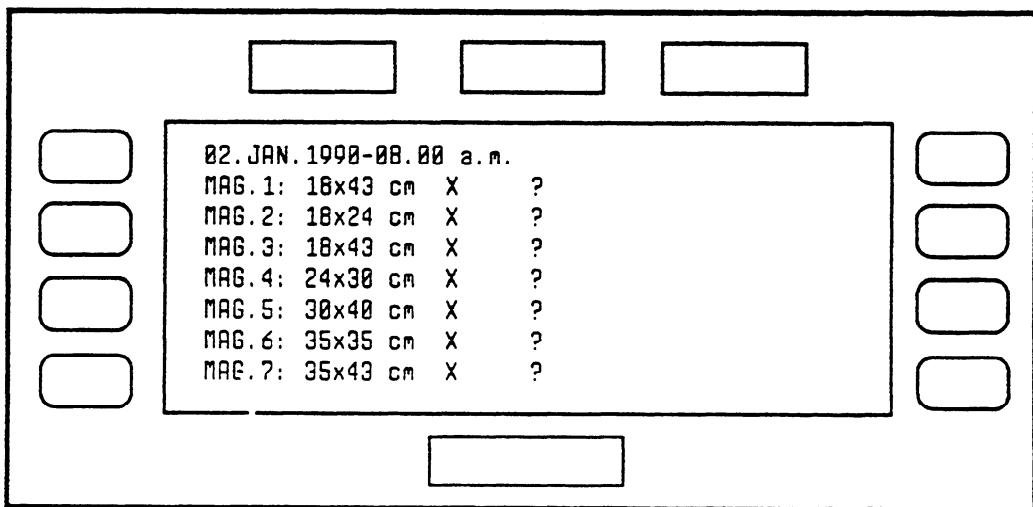

figure 5
4. Turn on the ML 700 and the 460RA. The display will be as shown in figure 5.
- 9** Press KEY 8 until the display is as shown in figure 5.